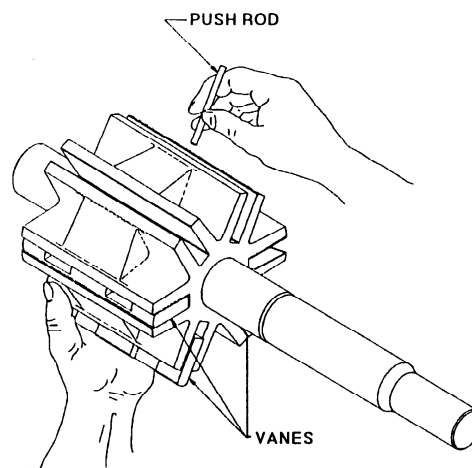

Figure 6 - Push Rod Installation\*
- b. Hold the vanes in place while inserting the push rods (77) from the top, as shown in Figure 6.